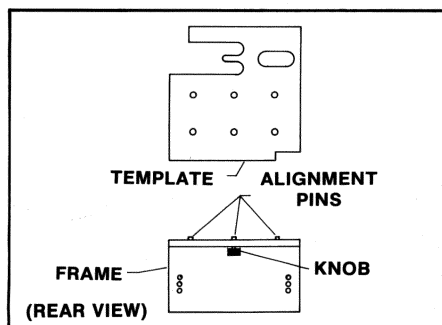

Fig. 2
2. The template may be assembled to the frame assembly in various positions for specific operations as explained in USING THE MORTISE AND TENON TEMPLATE. To assemble: place the template onto at least two of the three alignment pins (see Fig. 2) and hold while pushing up and turning the knob clockwise to secure.